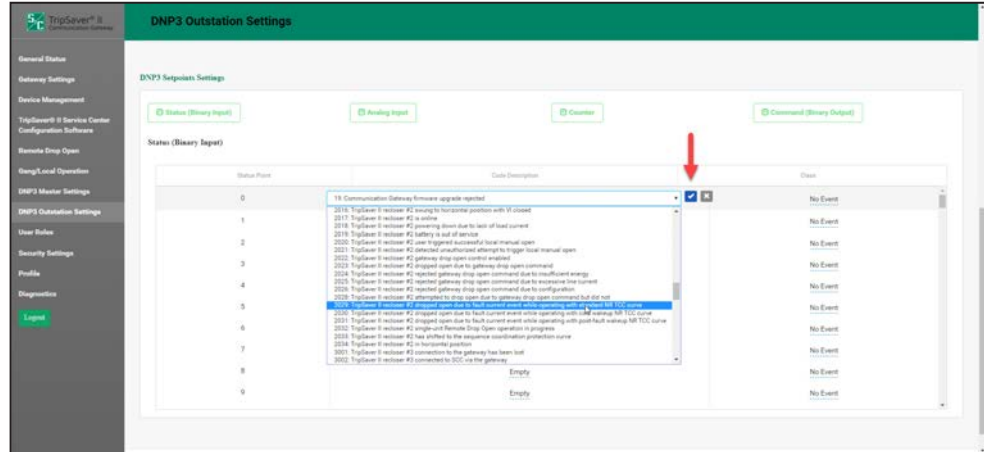

Figure 60. The Code Description drop-down menu.
**Code Description:** Point codes representing specific status points may be assigned to individual SCADA point numbers. A full list of code-description definitions is found in S&C Instruction Sheet 461-560, “TripSaver® II Communications Gateway: *DNP Points List and Implementation.*” Code descriptions are defined by selecting the **Code Description** field in line with the respective **Status Point** field. A drop-down dialog box will appear with code definitions for all TripSaver II reclosers paired with the communications gateway. See Figure 60. When a code definition has been chosen, select the **Check Mark** icon to finalize it. Removal of a code selection can be performed by selecting the blank row in the pull-down menu and clicking on the check mark. This will result in the field being displayed as empty. Finally, click on the **Save** button.